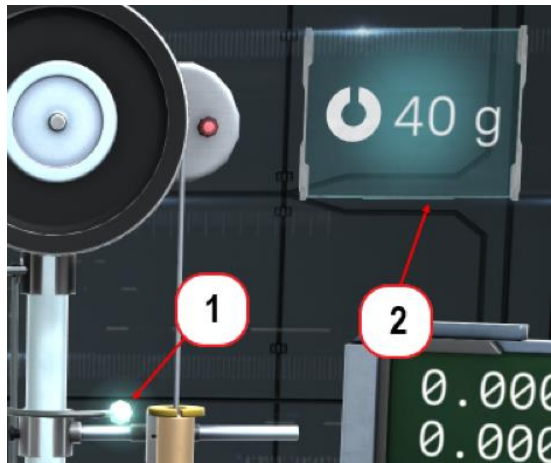

Figure 16 – The overload is placed on the weight
To get started with the installation, place the overloads on one or each of the weights. To do this, hold down the left mouse button on the overload with the desired mass, drag it onto the weight and release it. After placing the overload on the weight, the green indicator (1 in Figure 16) lights up next to the weight, and a sign appears next to the block indicating the weight of the placed overload (2). Only one